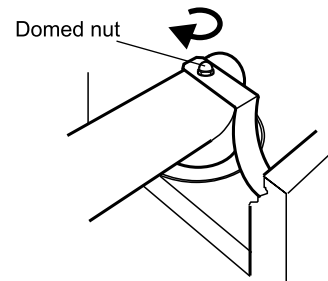

Fig. 22
- 6 **Cased models** - Ensure that the flexible air tube hanging bracket is positioned correctly. See Fig. 22.
- 7 Turn the domed nut of the flue elbow clamp clockwise until the elbow is clamped to the boiler. Tighten the domed nut using a spanner. See Fig. 22.